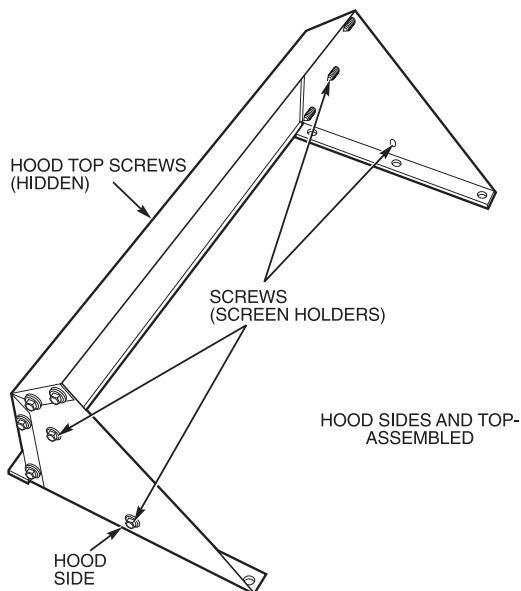
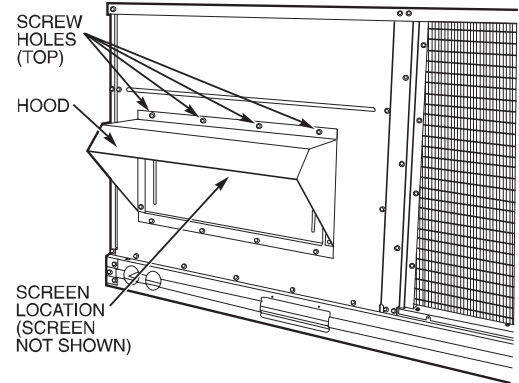

Fig. 11 — Outdoor-Air Hood Details
Fig. 12 — Outdoor-Air Damper with Hood Attached
5. Place hood on front of outdoor-air opening panel. See Fig. 11 for hood details. Secure top of hood with the 4 screws removed in Step 3. See Fig. 12.
7. Align screw holes on hood with screw holes on side of manual outdoor-air damper assembly. See Fig. 11 and 12. Secure hood with 6 screws from Step 6.
9. Remove and save screws currently on sides of hood. Insert screen. Secure screen to hood using the screws. See Fig. 12.